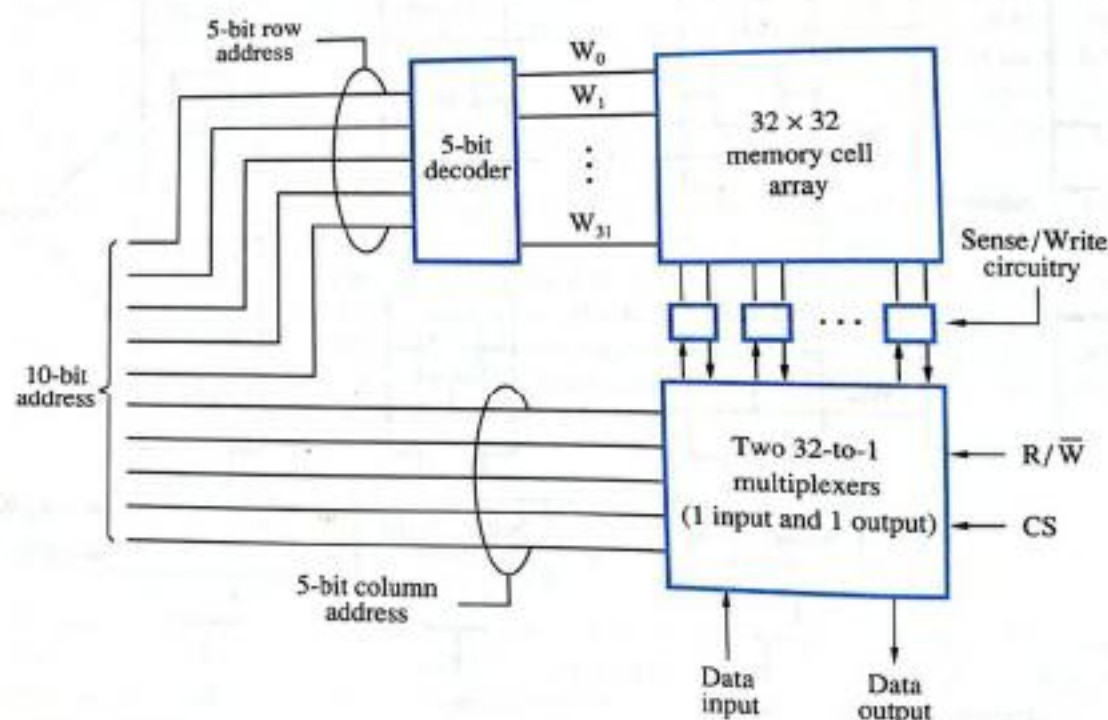

FIGURE 5.4
- Alternatively, the same number of cells can be organized into a $1K \times 1$ format. In this case, a 10-bit address is needed, but there is only one data line, resulting in 15 external connections. Figure 5.4 shows such an organization.